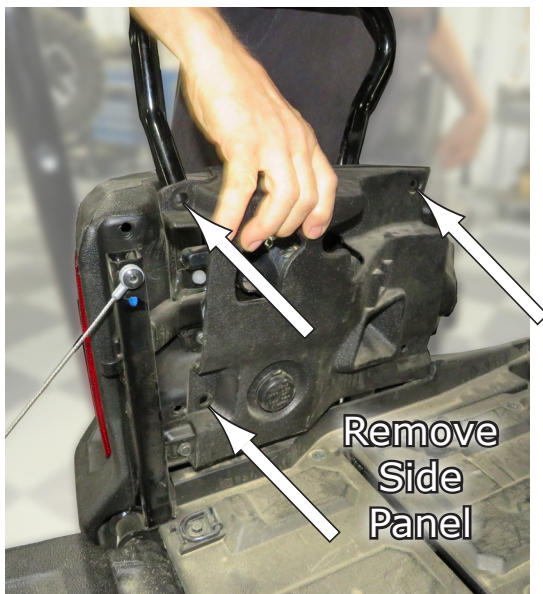
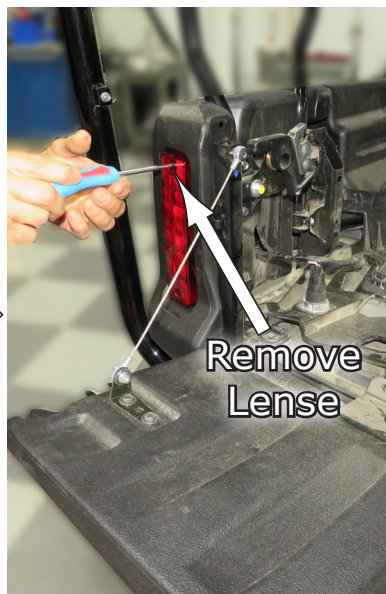

Fig.18
Fig.19
20. Now, from the top, remove the tail light panel (**Fig.18**) and Lense (**Fig.19**). Pull the light out and unplug the connector from the light. Now pull the new harness wires up and out and plug the new harness wires into the light shown in **Fig.20**.